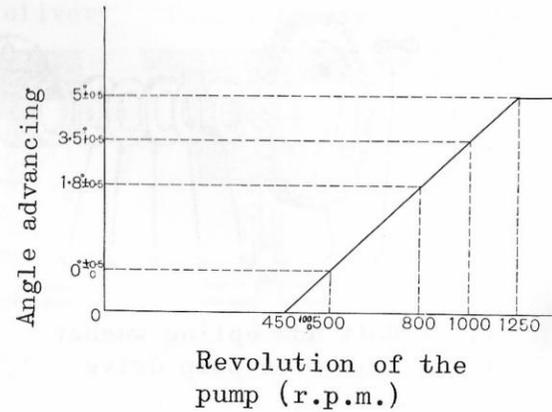

Fig. 9-15
2) The angle advancing characteristic of the automatic injection timing control is illustrated in Fig. 9-15.